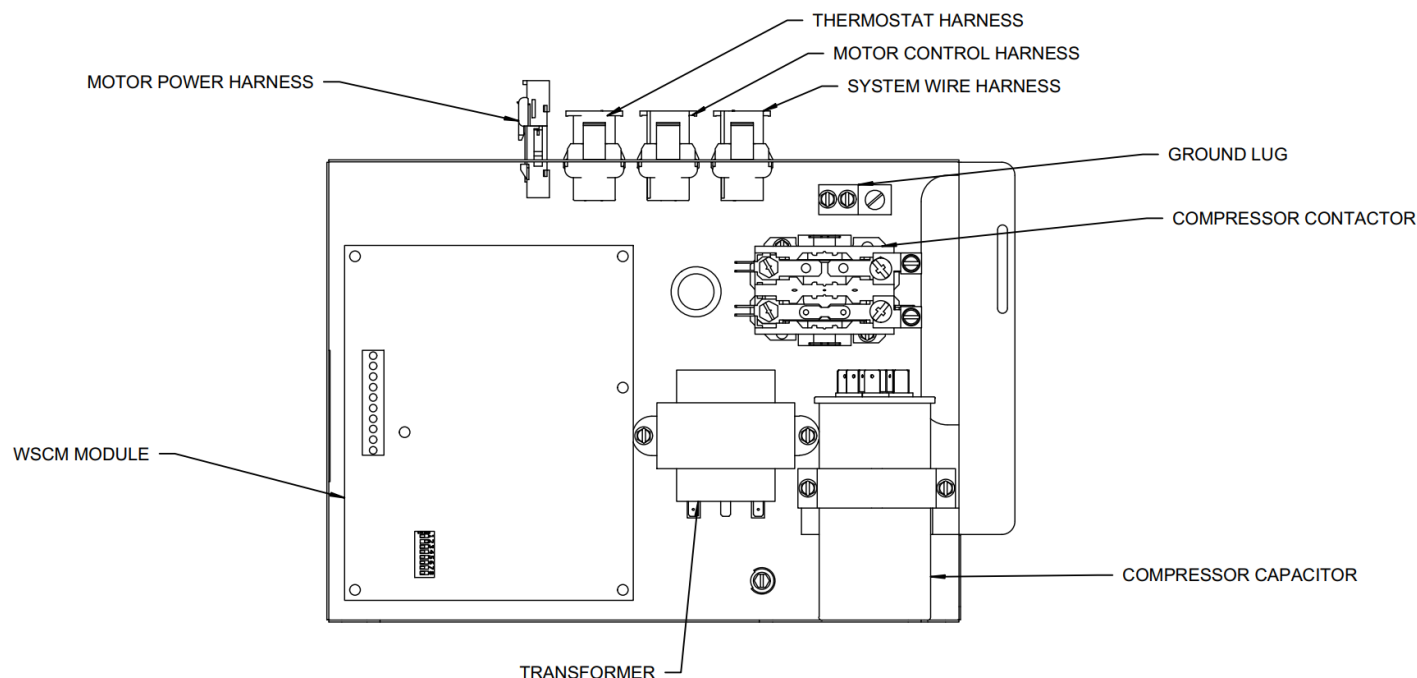

FIGURE 17 - Control Box Detail
- 3) Remove any supply power connections from the unit electrical box. Disconnect the motor harness, motor control harness, unit thermostat harness and system harness connections located on the top of the electrical box. Unscrew the 3 mounting screws that attach the electrical box to the base. **Remove electrical box, refer to FIGURE 17 - Control Box Detail for more information.**